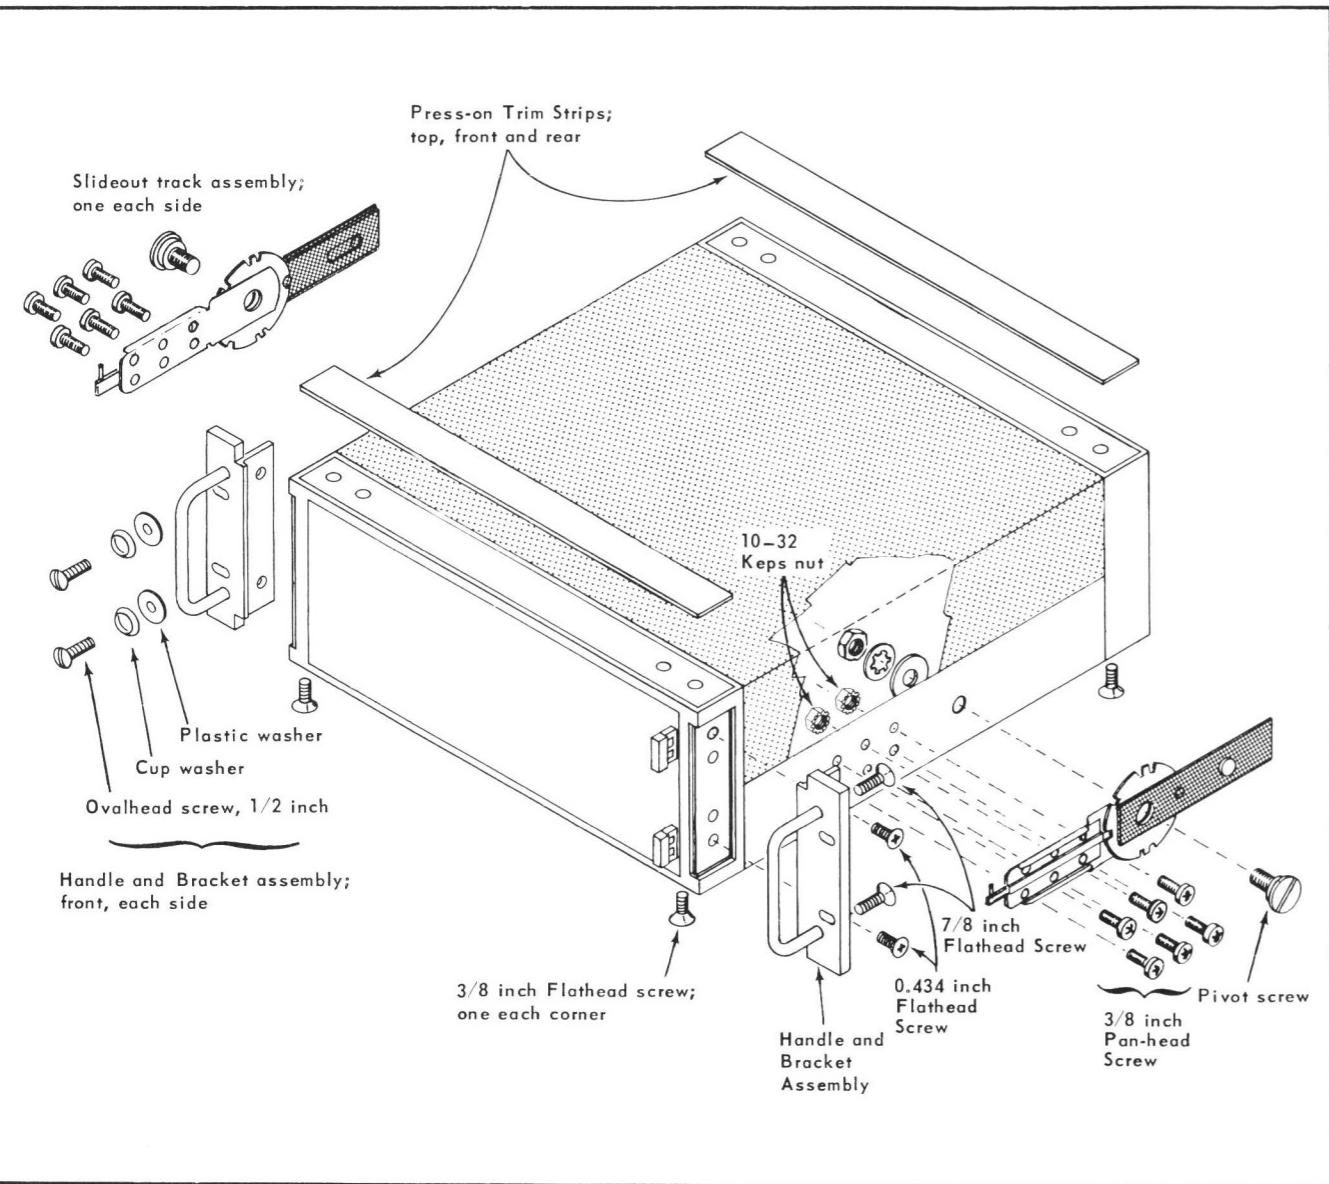
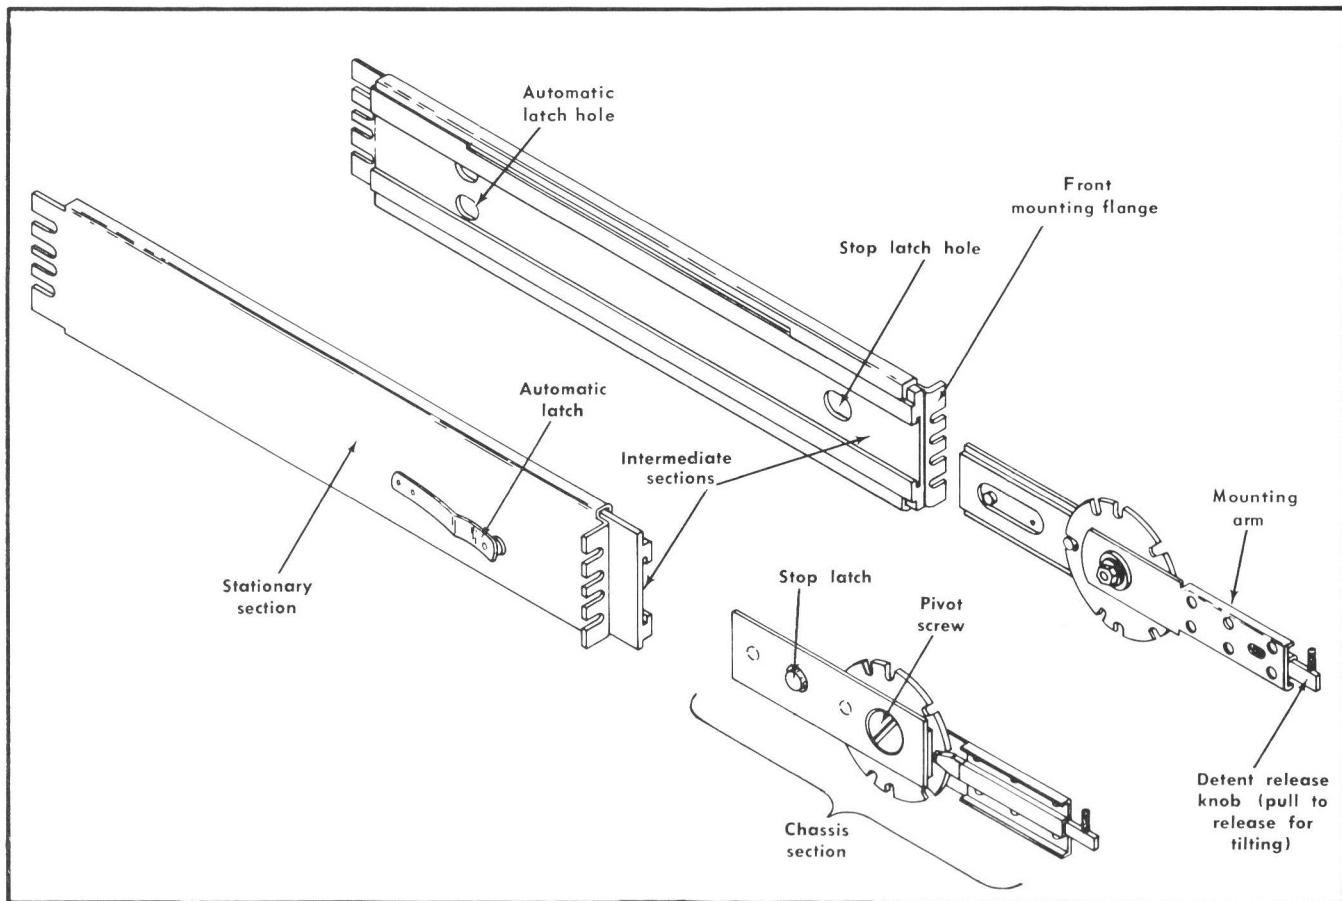

Fig. 8-1. Parts peculiar to the Type R250 chassis. See Figs. 8-4, 8-5, and 8-10 for rack attachment parts.
Fig. 8-4. Slide-out track assemblies.
Parts peculiar to the Type R250 must be removed from the Auxiliary Program Unit chassis before it can be converted to a bench-mount instrument (Type 250). These parts are shown in Fig. 8-1, and can be removed as follows:
The following parts must be added to complete the conversion. Locations of parts to be attached to the chassis are shown in Fig. 8-1. Identification of the slide-out track assembly parts is contained in Fig. 8-4.
5. Remove the nut and washers from the pivot screw of the right side chassis section. The right side section can be identified by the tiltlock release knob which will point toward the top of the unit after installation. (See Figs. 8-1 and 8-6.) Hold the assembly together while removing the nut and while installing the assembly on the chassis.
6. Place the assembly against the chassis, inserting the pivot screw into the hole indicated in Fig. 8-1. Replace the flat washer, lock washer and nut on the pivot screw and hand-tighten the nut. Check that the slide, the
7. Fasten the mounting arm to the chassis, using six 10-32 X 3/8 PHS screws and keps nuts (see Fig. 8-1). Tighten the six nuts.
The stationary and intermediate sections of the slide-out tracks are shipped as matched pairs and should not be separated. To distinguish between the right and left stationary/intermediate assemblies, note the position of the automatic latch (see Fig. 8-4) in each assembly. The automatic latch should be located near the bottom of the assembly when it is installed in the rack.